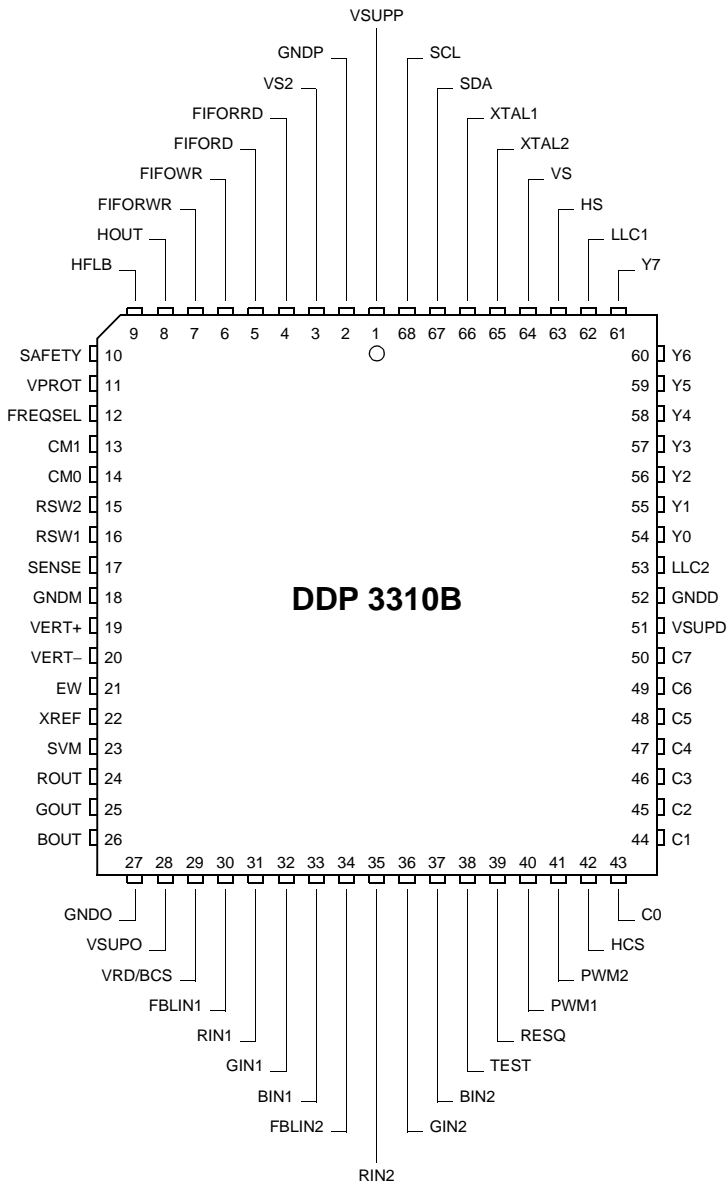

Fig. 4–2: 68-pin PLCCK package
Pin 24, 25, 26 – Analog RGB Output **ROUT, GOUT, BOUT** (Fig. 4–14)
Pin 29 – DAC Reference Decoupling/Beam Current Safety **VRD/BCS** (Fig. 4–13)
Pin 30, 34 – Fast-Blank Input **FBLIN1/2** (Fig. 4–7)
Pin 31, 32, 33 – Analog RGB Input1 **RIN1, GIN1, BIN1** (Fig. 4–15)
Pin 35, 36, 37 – Analog RGB Input2 **RIN2, GIN2, BIN2** (Fig. 4–15)
Pin 38 – Test Input **TEST** (Fig. 4–16)
Pin 39 – Reset Input **RESQ** (Fig. 4–16)
Pin 40 – Adjustable DC Output 1 **PWM1** (Fig. 4–17)
Pin 41 – Adjustable DC Output 2 **PWM2** (Fig. 4–17)
Pin 42 – Half-Contrast Input **HCS** (Fig. 4–18)
Pin 43...50 – Picture Bus Chroma **C0...C7** (Fig. 4–3)
Digital Circuitry Input Reference**Pin 53** – Main Clock Input **LLC2 (53)** (Fig. 4–16)
Pin 54...61 – Picture Bus Luma **Y0...Y7** (Fig. 4–3)
Pin 62 – Line-Locked Clock Input **LLC1** (Fig. 4–16)
Pin 63 – Sync Signal Input **HS** (Fig. 4–3)
Pin 64 – Sync Signal Input **VS** (Fig. 4–3)
Pin 65, 66 – Crystal Output / Input **XTAL2 / XTAL1** (Fig. 4–19)
Pin 67 – I²C Data Input/Output **SDA** (Fig. 4–20)
Pin 68 – I²C Clock Input **SCL** (Fig. 4–20)